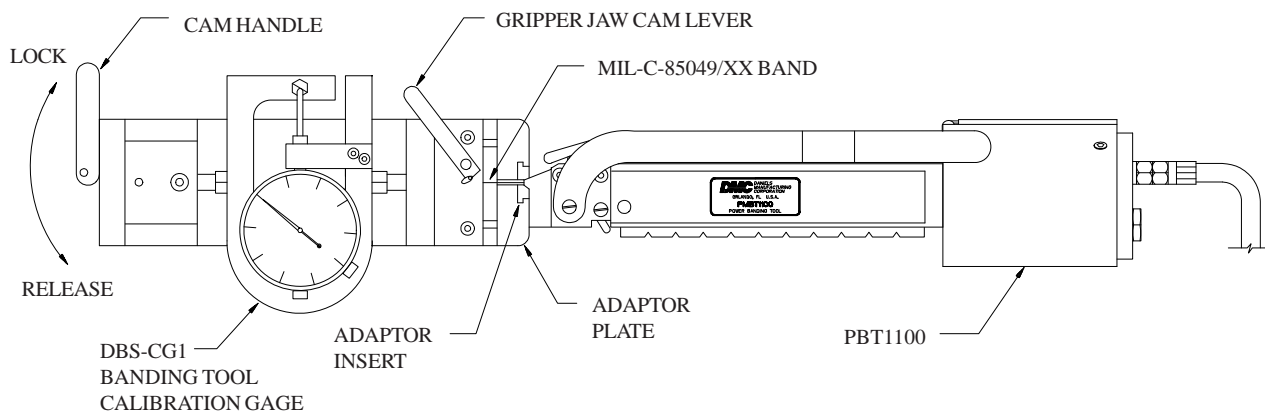

FIGURE 5
- 2.3.1 Place the banding tool calibration fixture (P/N DBS-CG1) in a position where the dial of the gage is facing the operator as shown in Figure 5.